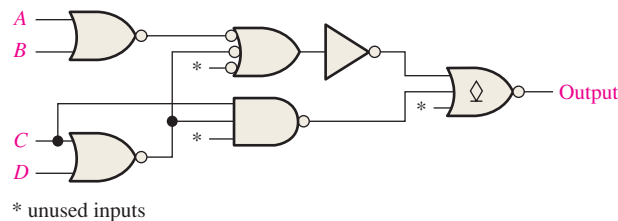

FIGURE 15-54
14. The CMOS gate network in Figure 15-54 is incomplete. Indicate the changes that should be made.